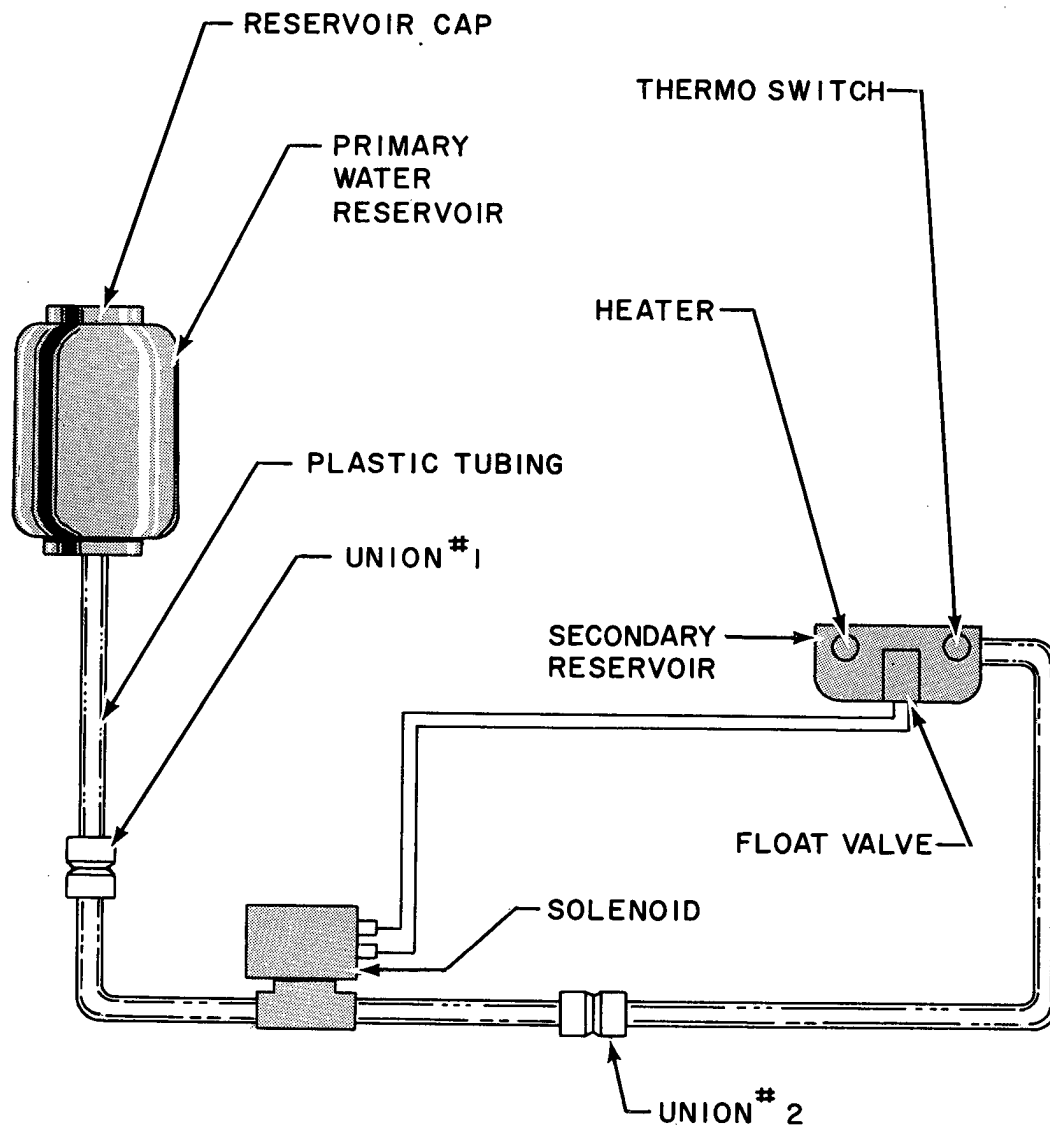
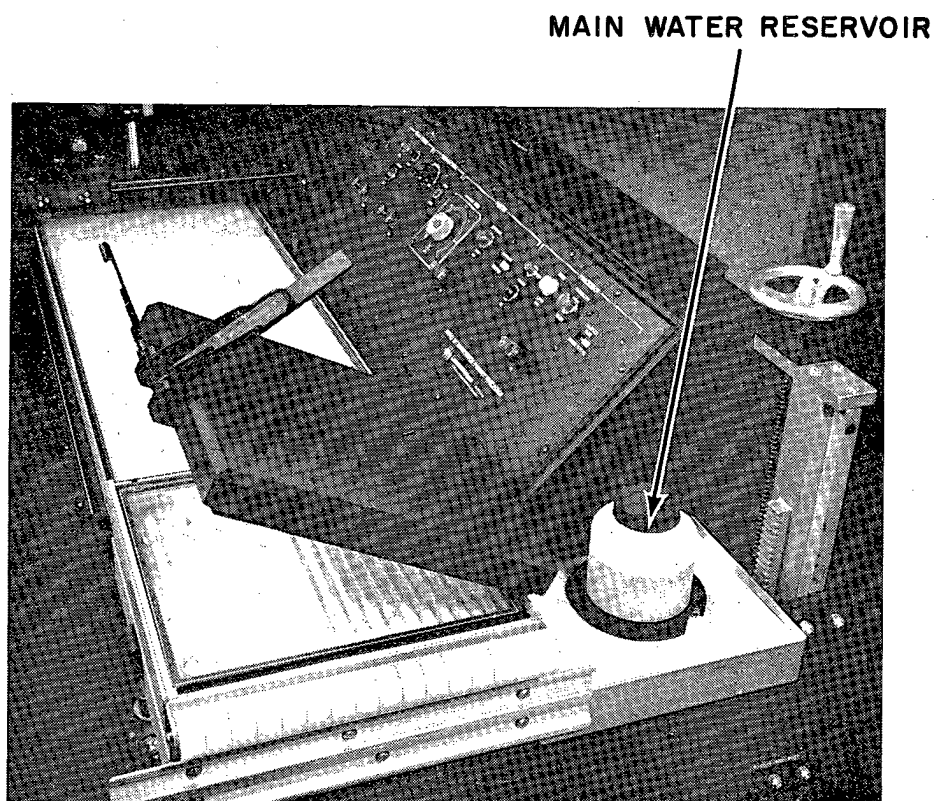

Figure 4.1 SCHEMATIC of WATER SUPPLY SUBSYSTEM
Figure 4.2 MAIN WATER RESERVOIR
The water supply subsystem is schematically illustrated in Figure 4.1. Externally visible components of the subsystem are photographically illustrated in Figures 4.2, 4.3, 4.4, and 4.5 and consist of the following:
- A. Main Water Reservoir (Figure 4.2) - Plastic water bottle, refillable from top.